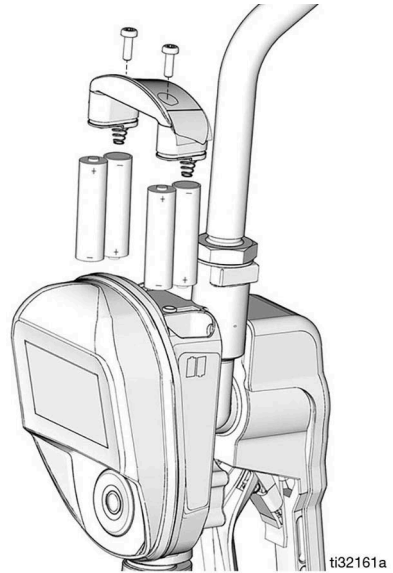

FIG. 39
- Follow the correct polarity, shown on the installation labels located on either side of the metered dispense valve, when installing batteries in the battery compartment (FIG. 39).
4. Install four new batteries. See labels on each side of the housing for battery orientation (FIG. 39).